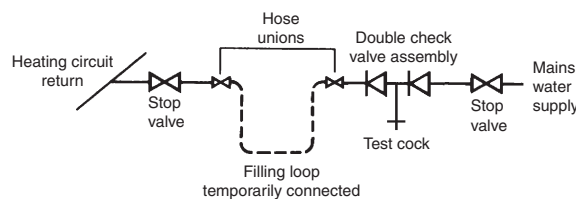

Fig. 4.6
4.8 FILLING THE CENTRAL HEATING SYSTEM - Fig. 4.6
Provision must be made for filling the system. This is done by the use of a filling loop. See Fig. 4.6. A filling loop is not supplied with this boiler.
Filling of the system must be carried out in a manner approved by the local Water Undertaking. Where allowed, the system may be filled via a temporary connection as shown in Fig. 4.6. After filling, always disconnect the flexible hose of the filling loop.